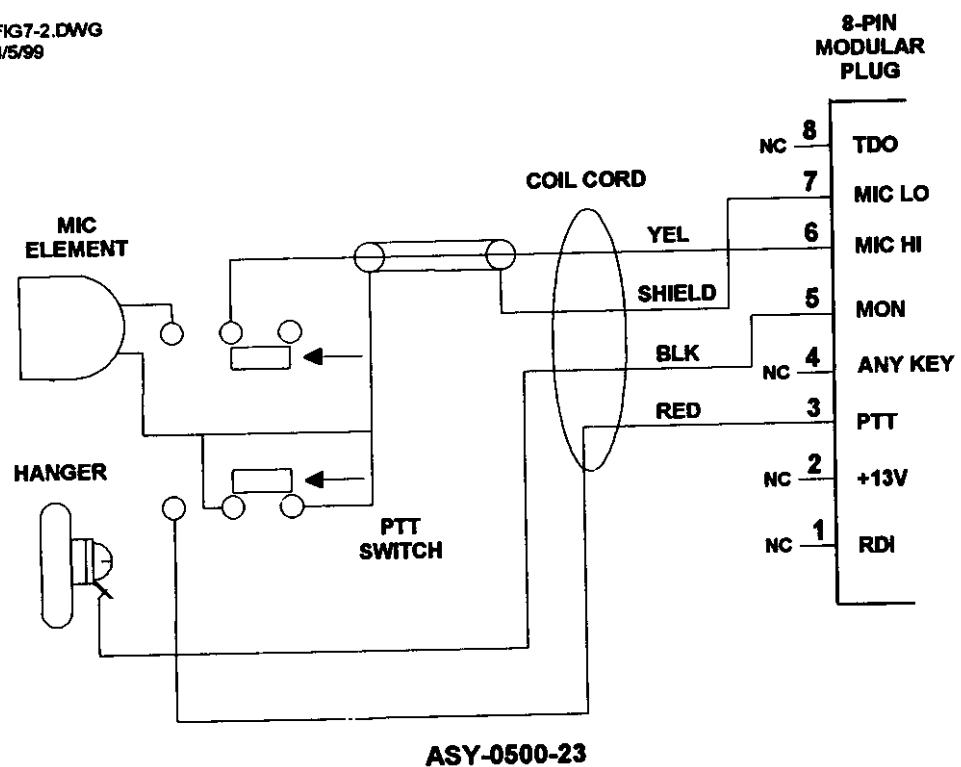

Figure 7.2 Palm Microphone Schematic
7.2 MOBILE PALM MICROPHONE, ASY-0500-23 (See Figure 7.2)